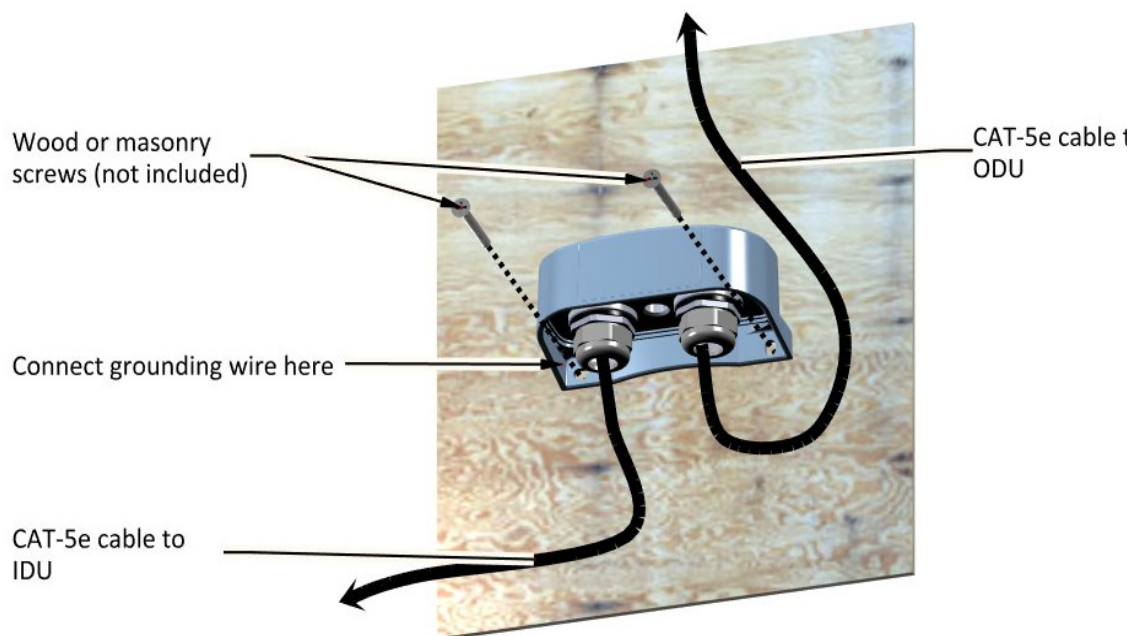

Figure 2-61: Installing an LPU on a wall
2. Attach the LPU to the wall using wood or masonry screws (not included), via the holes as shown in Figure 2-61.